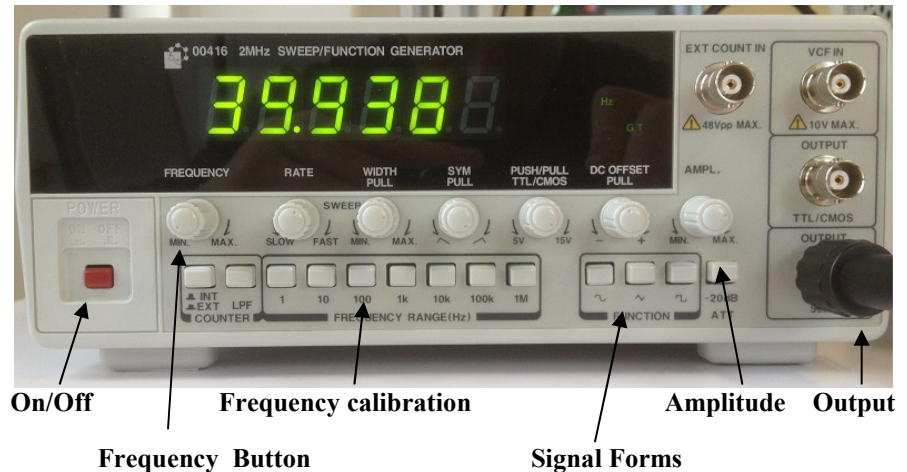

Figure 1.
1) A **wave generator** is a generator that can deliver alternative electric signals (Figure 1). In the present work we will discover the basic functions of the apparatus as controlling the form of the signal (sinusoidal, triangular, rectangular) its amplitude and frequency.